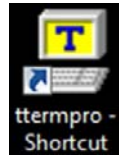

Figure 33. Tera Term Desktop Icon
- (1) Access the Setup Menu via the Setup icon button at the top of the main menu.
- (2) A password prompt will appear before entering the Setup page. If a password was not previously established, or if the administrator forgets the password, he/she should use the test “L3DSADMIN”.
- (3) Close the EFB GUI by selecting the “Exit to Windows” button. The Windows 7 desktop will appear on the DU.
- (4) Double-click Tera Term icon (Figure 33) located on the desktop.